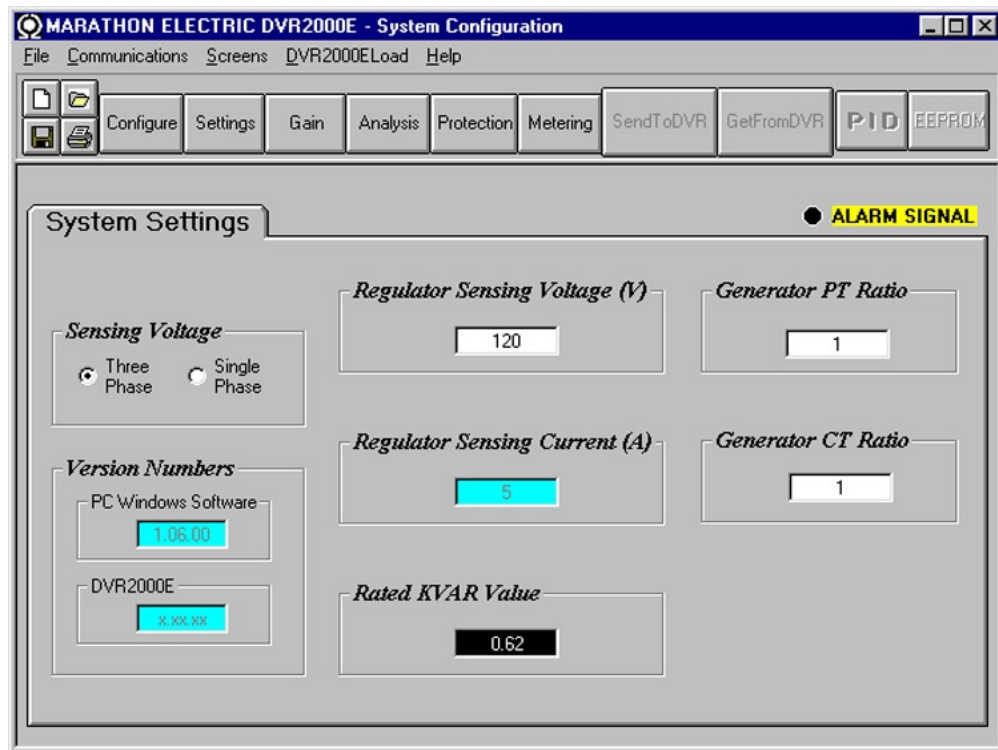

Figure 5-8. System Configuration Screen
System settings are shown in Figure 5-8 and are described in the following paragraphs.
**Automatic Voltage Regulator (AVR) - AVR Setpoint (V).** This setting field is used to enter the desired generator output terminal voltage. The AVR setpoint value range depends on the regulator sensing voltage and band setting.
**Fine Voltage Adjustment - Band Setting (%).** The Band Setting determines the minimum and maximum adjustment allowed to the AVR Setpoint. This value is expressed as a percentage of the Regulator Sensing Voltage (see Figure 5-8). Band Setting values are entered as a percentage over a range of 0 to 15 percent in 0.1 percent increments.
**Field Current Regulator (FCR) - FCR Setpoint (A).** This setting defines the field current setpoint when operating in Manual mode. The FCR Setpoint field accepts a value of 0 to 3 Adc in increments of 0.01 Adc
**Power Factor Control (PF) - PF Setpoint.** The PF Setpoint determines the level of generator power factor maintained by the DVR2000E when operating in Power Factor Control mode. PF Setpoint values are adjustable from -0.6 to -1 (1) or 0.6 to +1 in 0.001 increments.